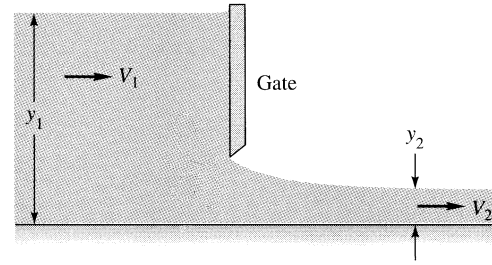

Fig. P10.69
**10.69** Given is the flow of a channel of large width  $b$  under a sluice gate, as in Fig. P10.69. Assuming frictionless steady flow with negligible upstream kinetic energy, derive a formula for the dimensionless flow rate  $Q^2/(y_1^3 b^2 g)$  as a function of the ratio  $y_2/y_1$ . Show by differentiation that the maximum flow rate occurs at  $y_2 = 2y_1/3$ .
**10.70** In Fig. P10.69 let  $V_1 = 0.75$  m/s and  $V_2 = 4.0$  m/s. Estimate (a) the flow rate per unit width; (b)  $y_2$ ; and (c)  $Fr_2$ .
**10.71** In Fig. P10.69 let  $y_1 = 95$  cm and  $y_2 = 50$  cm. Estimate the flow rate per unit width if the upstream kinetic energy is (a) neglected; and (b) included.
**10.73** In Fig. P10.69 suppose that  $y_1 = 1.4$  m and the gate is raised so that its gap  $H$  is 15 cm. Estimate the resulting flow rate per unit width and the downstream depth.
**10.74** With respect to Fig. P10.69, show that, for frictionless flow, the upstream velocity may be related to the water levels by